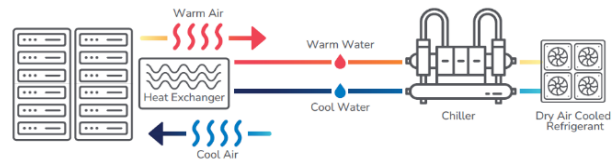

Fig 2: The three stages of closed loop system
1. **“Dry” cooling:** this uses fans to blow cool air over the warmed water in the closed loop and/or a mechanical chiller and refrigerant to cool the water. Most systems use both – relying just on fans to pump the air most of the time (free cooling) and only using mechanical chillers on hotter days (Fig 2). This approach uses no water but is more energy intensive than the options below.